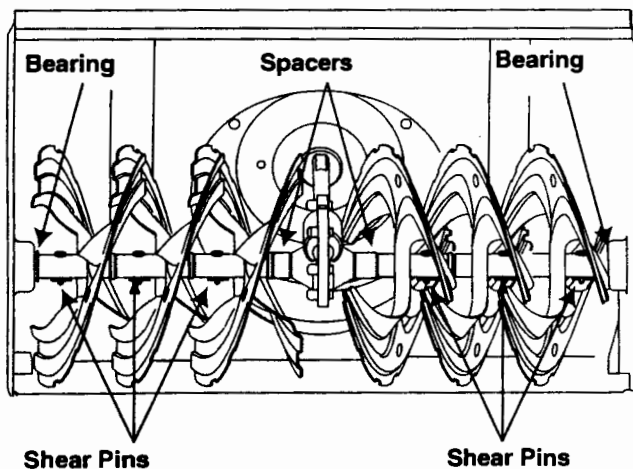

Figure 22- 30" Auger Shown
- Apply a light coating of an all-weather multi-purpose grease to the hex shaft. See Figure 22.
- At least once a season, remove the shear pins on auger shaft. Spray lubricant inside shaft, around the spacers. Also lubricate the flange bearings found at either end of the shaft. See Figure 22.